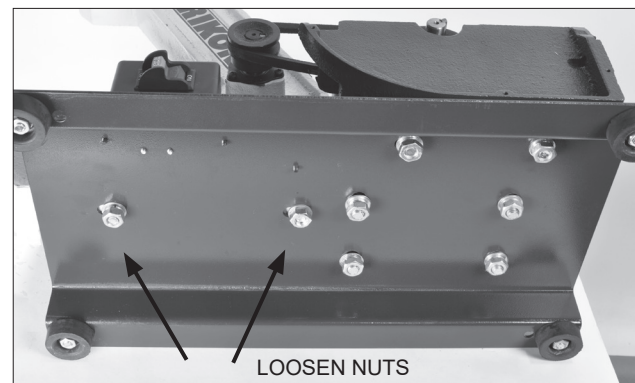

FIG. 29
2. Tilt the sander back, and slightly loosen the two Hex Nuts (#4) so that the sanding Frame (#64) can be moved a bit forward or backwards on the Base (#5) to tension the V-belt. FIG. 29.